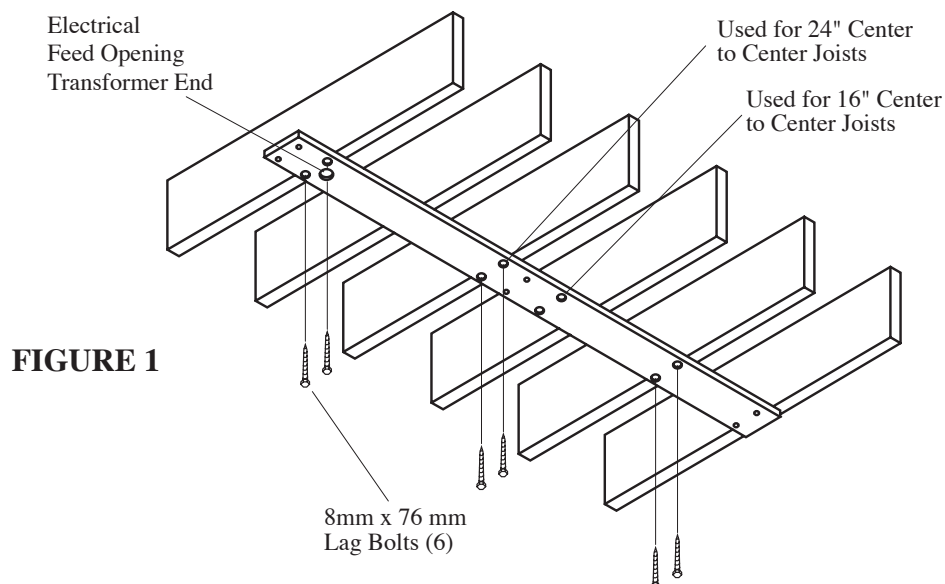

FIGURE 1
- A) In conventional ceilings with **joists perpendicular** to the center line of the light, attach the pallet by **at least 6 (M8 x 76mm)** lag screws. Suitable holes are provided in pallet for most installations, utilizing 16"(406 mm) or 24"(610 mm) center to ceiling joists. For other spacings or locations, additional holes can be cut in pallet. (SEE FIGURE 1.)